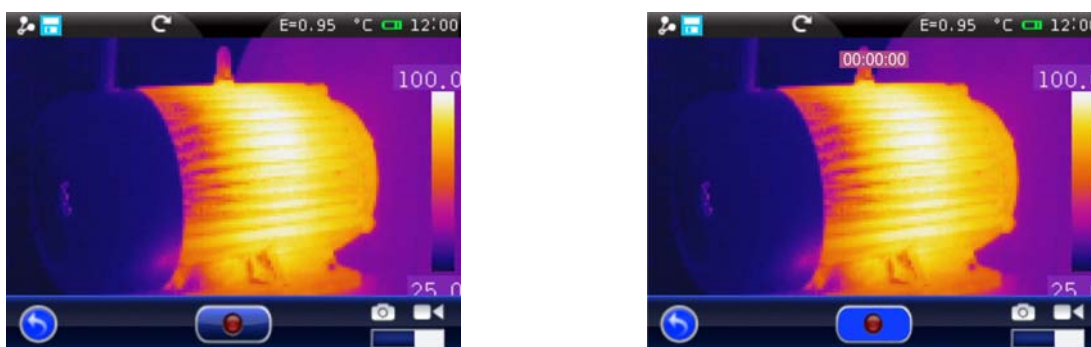

Fig. 64: IR video recording
1. Touch the icon “” in the general menu and move the icon “” to the right. The following screen appears (see Fig. 64 – Left side):
2. Touch the icon “” to start recording the IR video. The icon becomes “” and the indication of the duration of the video indicated in “HH:MM:SS” appears in the upper part of the display (see Fig. 64 – Right side).